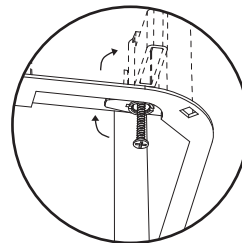

figure 1
3. Connect the ducting if required to the outer grille of the unit. Insert the unit into the square hole being sure to pull the side clips inward so that the body can pass through the hole without damaging the plaster. Rotate the swing clips to hold motor body in place (figure 1) then tighten screw to let the clip clap onto the ceiling board (figure 2).